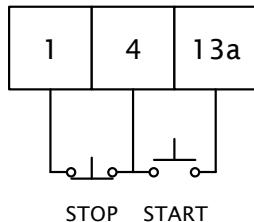

Figure 6.11: Three-wire control
- 1. Wire the RED and GREEN momentary pushbuttons as shown in Figure 6.11.